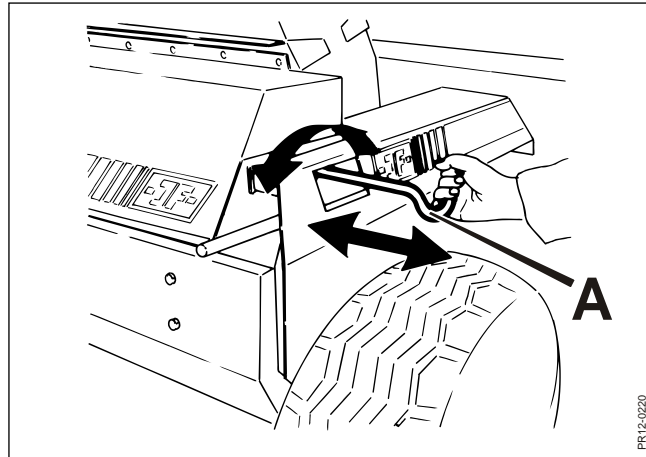

Fig. 4-24
- Fig. 4-24** 7. Feed carefully by turning the handle **A** until the stone touches the blade. Now move the stone in a sliding movement across the rotor and back again. Feed some more and repeat the movement across the whole width of the rotor so that the blades in the whole width of the rotor are sharpened.